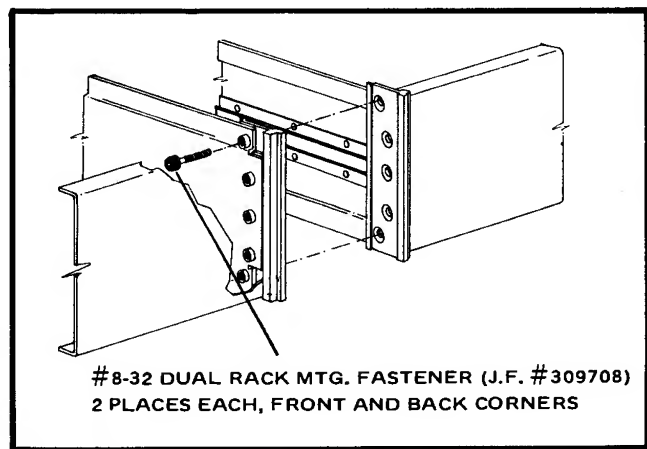

Figure 6-3. DUAL RACK MOUNTING
- f. Pull the front panel forward slightly and then thread the # 8-32 fasteners into the P-nuts shown in Figure 6-3.
- i. Bolt the two power sources together as shown in Figure 6-3.